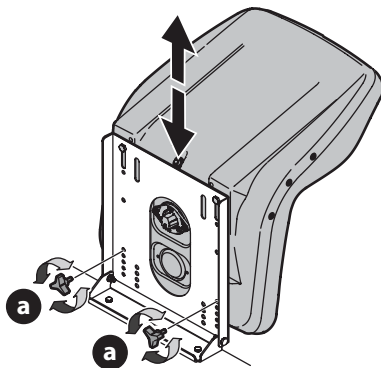

Fig. 17
1. Remove the knobs (a) (Fig. 17).
3. Replace the knobs into one of the four hole settings and tighten securely (Fig. 17).